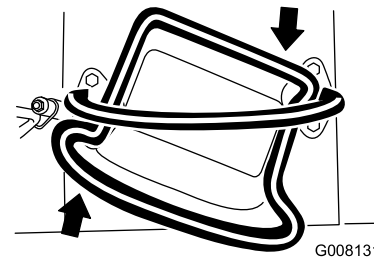

Figure 11
- To turn right, rotate the traction control clockwise (Figure 11).